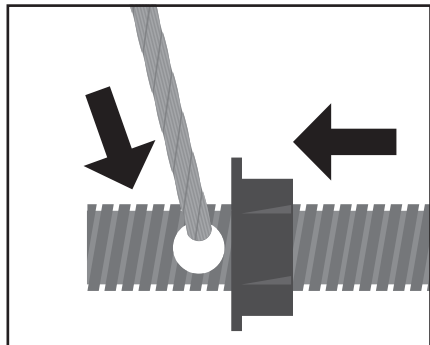

Fig. 11
5. Pass the steel cable through top guide wheel to outside of column, insert through mounting hole in bolt and tighten (Fig. 11).